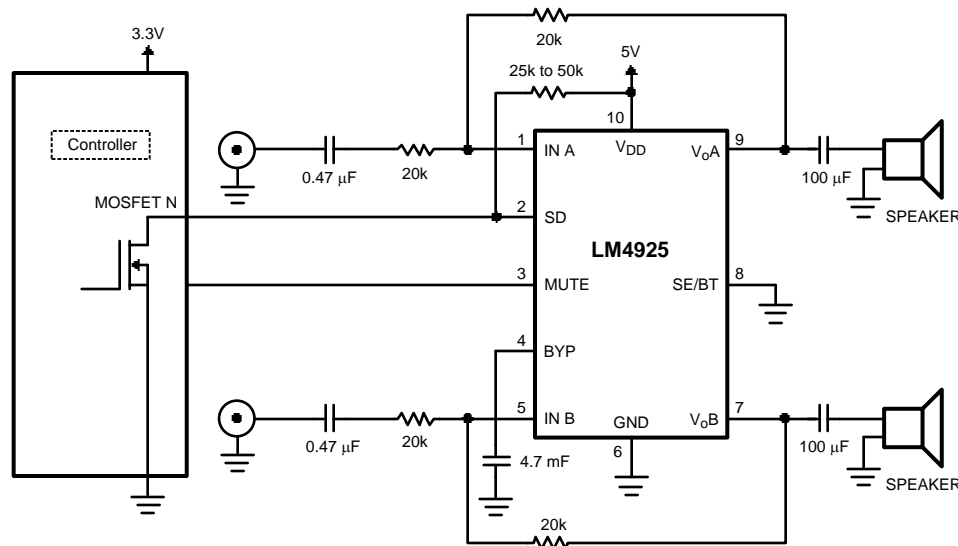

Figure 30. Recommended Circuit for Different Supply Turn-On Timing
The LM4925 can be configured for either single ended (see Figure 4) or BTL mode (see Figure 5). When the \overline{SE}/BTL pin has a logic high (V_{DD}) applied to it, the LM4925 is in BTL mode. If a logic low (GND) is applied to \overline{SE}/BTL , the LM4925 operates in single-ended mode. The slew rate of V_{DD} must be greater than 2.5V/ms to ensure reliable Power on reset (POR). The circuit shown in Figure 30 presents an applications solution to the problem of using different supply voltages with different turn-on times in a system with the LM4925. This circuit shows the LM4925 with a 25-50kΩ. Pull-up resistor connected from the shutdown pin to V_{DD} . The shutdown pin of the LM4925 is also being driven by an open drain output of an external microcontroller on a separate supply. This circuit ensures that shutdown is disabled when powering up the LM4925 by either allowing shutdown to be high before the LM4925 powers on (the microcontroller powers up first) or allows shutdown to ramp up with V_{DD} (the LM4925 powers up first). This will ensure the LM4925 powers up properly and enters the correct mode of operation (BTL or SE). Please note that the \overline{SE}/BTL pin should be tied to GND for single-ended (SE) mode, and to Vdd for BTL mode.